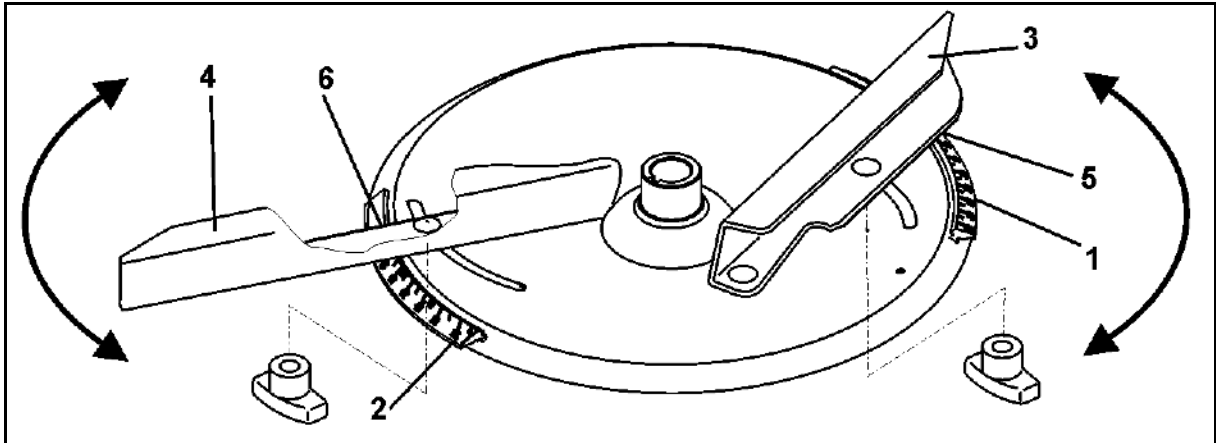

Fig. 86
Two different scales, designed so as to make it impossible to confuse them, are arranged on each spreading disc for precision setting of the individual spreading vane positions (Fig. 86/1 and Fig. 86/2).
- The shorter spreading vanes (Fig. 86/3) are assigned the scale (Fig. 86/1) with values from 5 to 28; the longer spreading vanes (Fig. 86/4) are assigned the scale (Fig. 86/2) with the values from 35 to 55.
- For the short spreading vane (Fig. 86/3), read off the set value on the read-off edge (Fig. 86/5).
- For the long spreading vane (Fig. 86/4), read off the set value on the read-off edge (Fig. 86/6).
- Swivelling the spreading vanes to a higher scale value (Fig. 86/1 or Fig. 86/2) increases the working width.